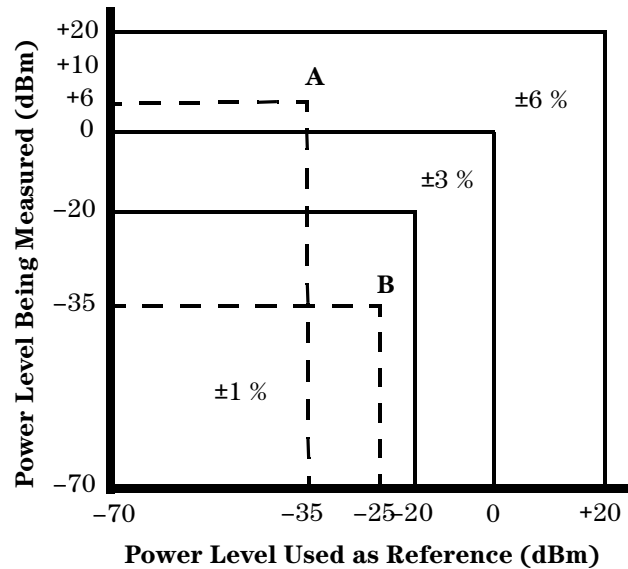

Figure 2 Relative Mode Power Measurement Linearity with Power Meter/Sensor at 25 °C (Typical)
- Figure 2 Relative Mode Power Measurement Linearity with Power Meter/Sensor at 25 °C (Typical) 7
a. Limits are in percent of power in Watts. See Figure 2 for relative power measurement.
The chart in Figure 2 shows the typical uncertainty in making relative power measurements with the E44XX-Series power meter in the Rel (relative) mode. In a relative measurement, two power levels are compared using a single sensor. The typical measurement uncertainty can be found by drawing a vertical line at a power level used as a reference, and a horizontal line at the power being measured. The region where these two lines intersect shows the typical uncertainty. This assumes that the reference power and the measured power are at the same frequency, and neglects errors due to zero set, zero drift, and noise. It also assumes no change in mismatch when measuring the “Power level used as reference” and the “Power level being measured”. This chart illustrates that the best relative power measurement accuracy is obtained when the reference and the measured power levels are equal to, or less than, -20 dBm. Care in choosing the power levels can yield improved measurement accuracy. Example A illustrates a relative gain (amplifier measurement) and example B illustrates a relative loss (insertion loss measurement).